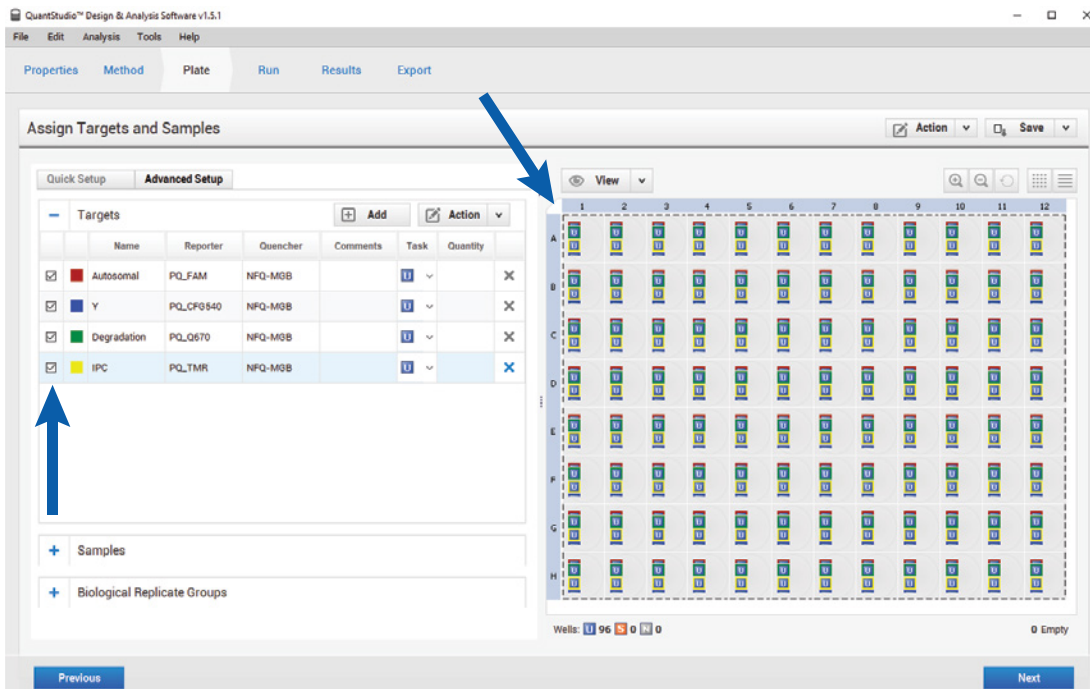

Figure 38. Assigning targets to wells.
- Highlight all wells in the plate map by dragging the pointer over the plate wells. Assign all four targets to all wells by selecting the box next to each target name (Figure 38).